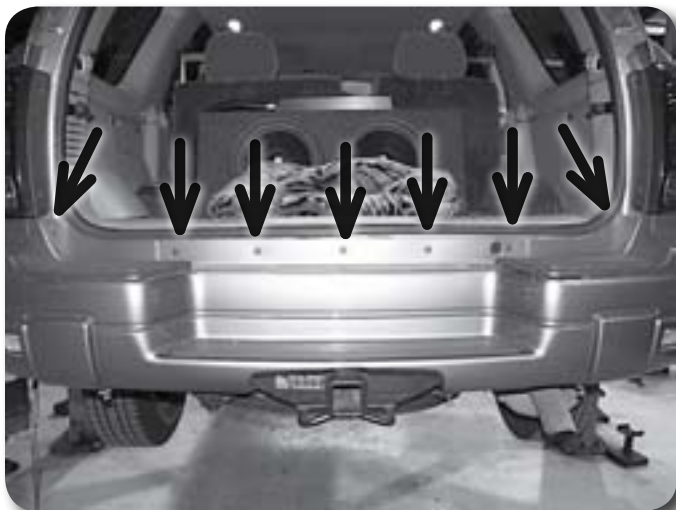

Figure 15
21. Open the rear tailgate and remove the seven screws mounting the bumper cover to the body **Figure 15**. Save screws.